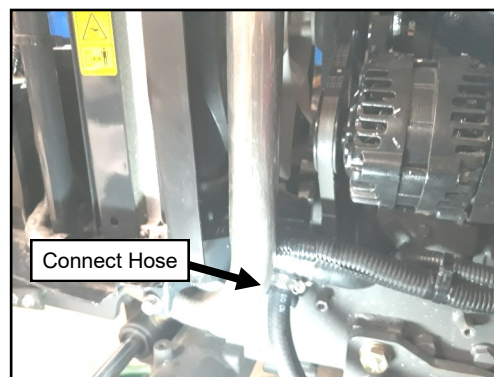

Figure 17.12 (Connect Heater Hose)
- 17.12 Route the hose over to the tee fitting making sure it does not kink or rub against any sharp objects. Cut to length and install to tee with small hose clamp. See figure 17.12.